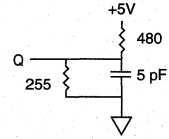

Fig. 2 OUTPUT LOAD EQUIVALENT
- t_{HZCE}, t_{HZOE} and t_{HZWE} are specified with C_L = 5pF as in Fig. 2. Transition is measured ±500mV from steady state voltage.